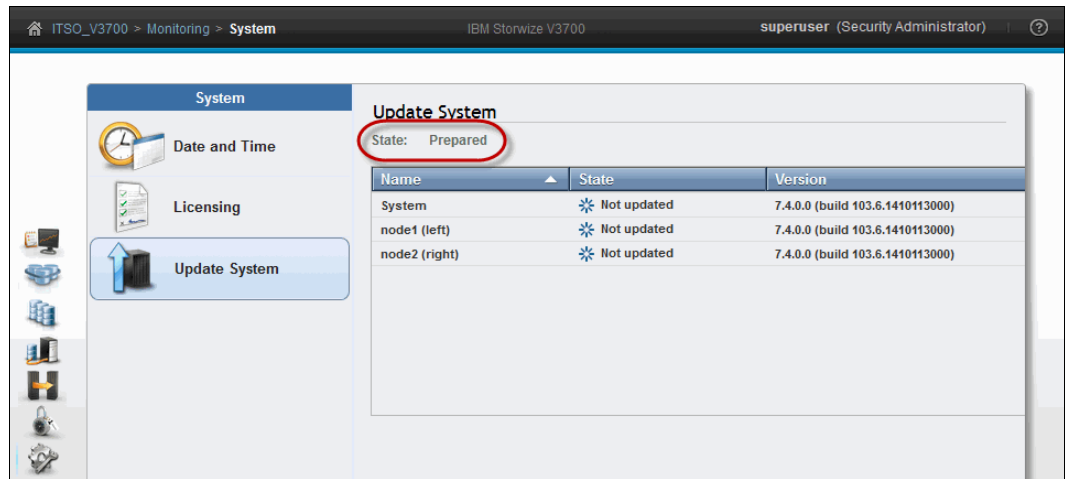

Figure 11-38 Update System status: Prepared state
- After the software has been uploaded, the test utility is automatically run and, if there are no issues, the system is placed in a **Prepared** state, as shown in Figure 11-38.